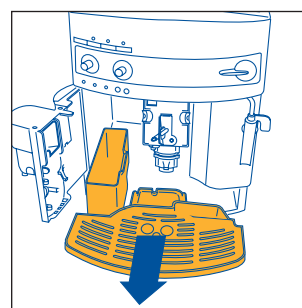

Fig. 16
NOTE 7: : the machine counts the number of cups of coffee made. Each 14 single cups (or 7 double cups), the ☺ light switches on steady (chap. 12 point 3), warning the user that the grounds container is full and must be emptied and cleaned. Until the grounds container has been cleaned, the light will remain on and the machine cannot deliver coffee. To clean the container, open the service door on the front (pulling the handle, Fig. 15), the △ light flashes (see para 12 point 9); remove the drip tray (Fig. 16), empty and clean. Empty and carefully clean the grounds container, making sure to remove all the residues that may be deposited on the bottom. Also dry the any drops of condensate that may have formed inside the machine under the drip tray. **IMPORTANT: when removing the drip tray, the grounds container MUST be emptied, even if it is not completely full. If this is not done, when next making coffee the grounds container may fill over the maximum level and block the machine with lumps of coffee grounds.**
- remove the drip tray and the grounds container (Fig. 16) and clean them;